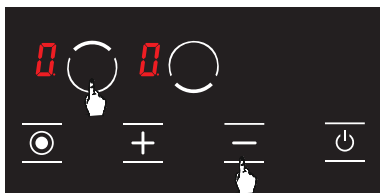

Figure 21
- Press upper hob selection key (**0**) and minus key (**-**) simultaneously. (see Fig. 21) You shall hear a short warning signal at this time. Then, remove your fingers from the stove control panel.